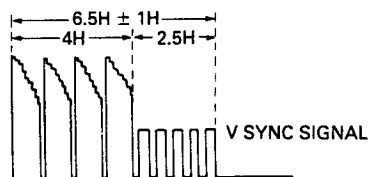

Figure 54.
3. Selecting (+) sync slope with the oscilloscope, adjust R723 to meet the requirements given in Figure 54.